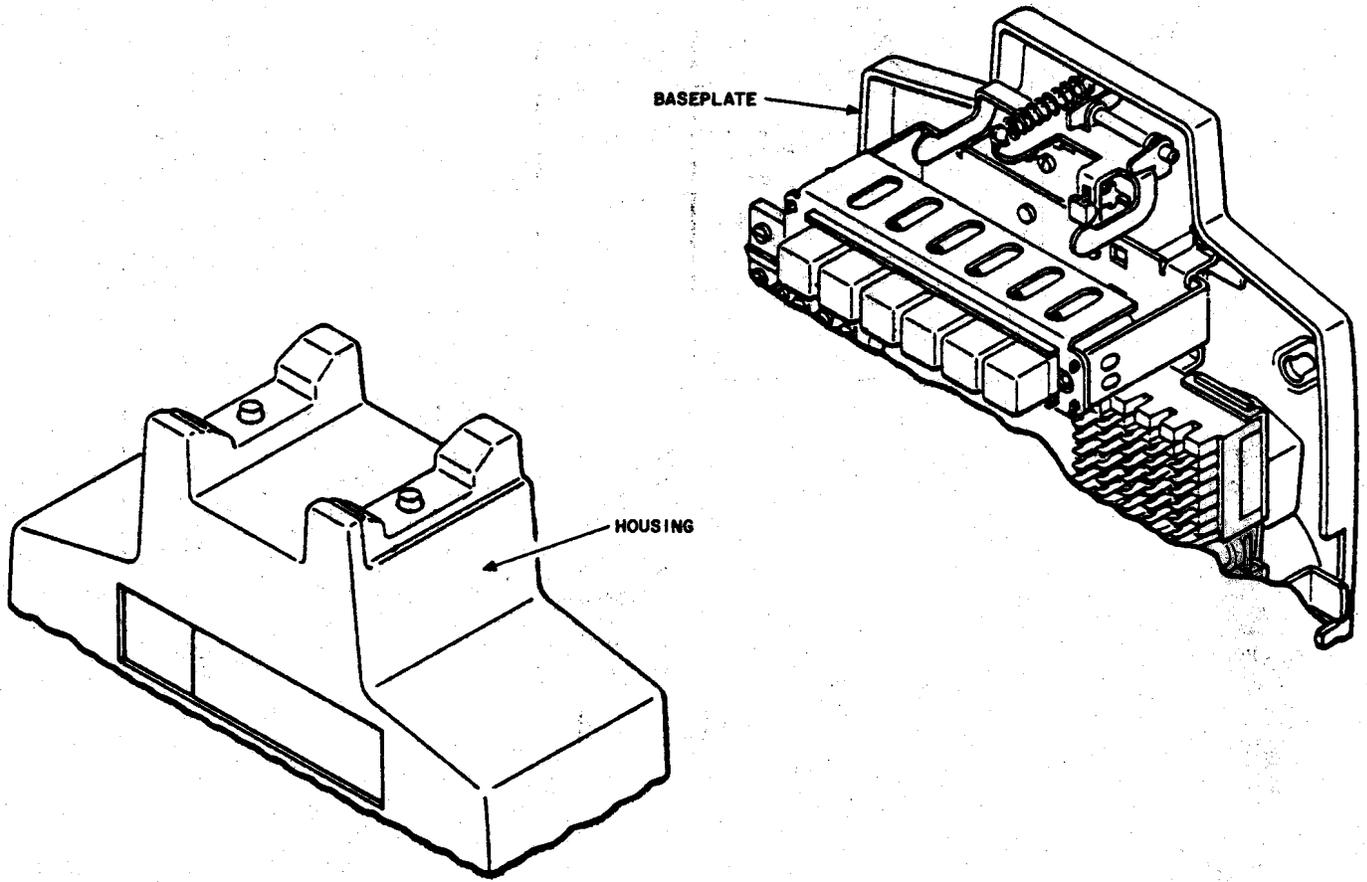
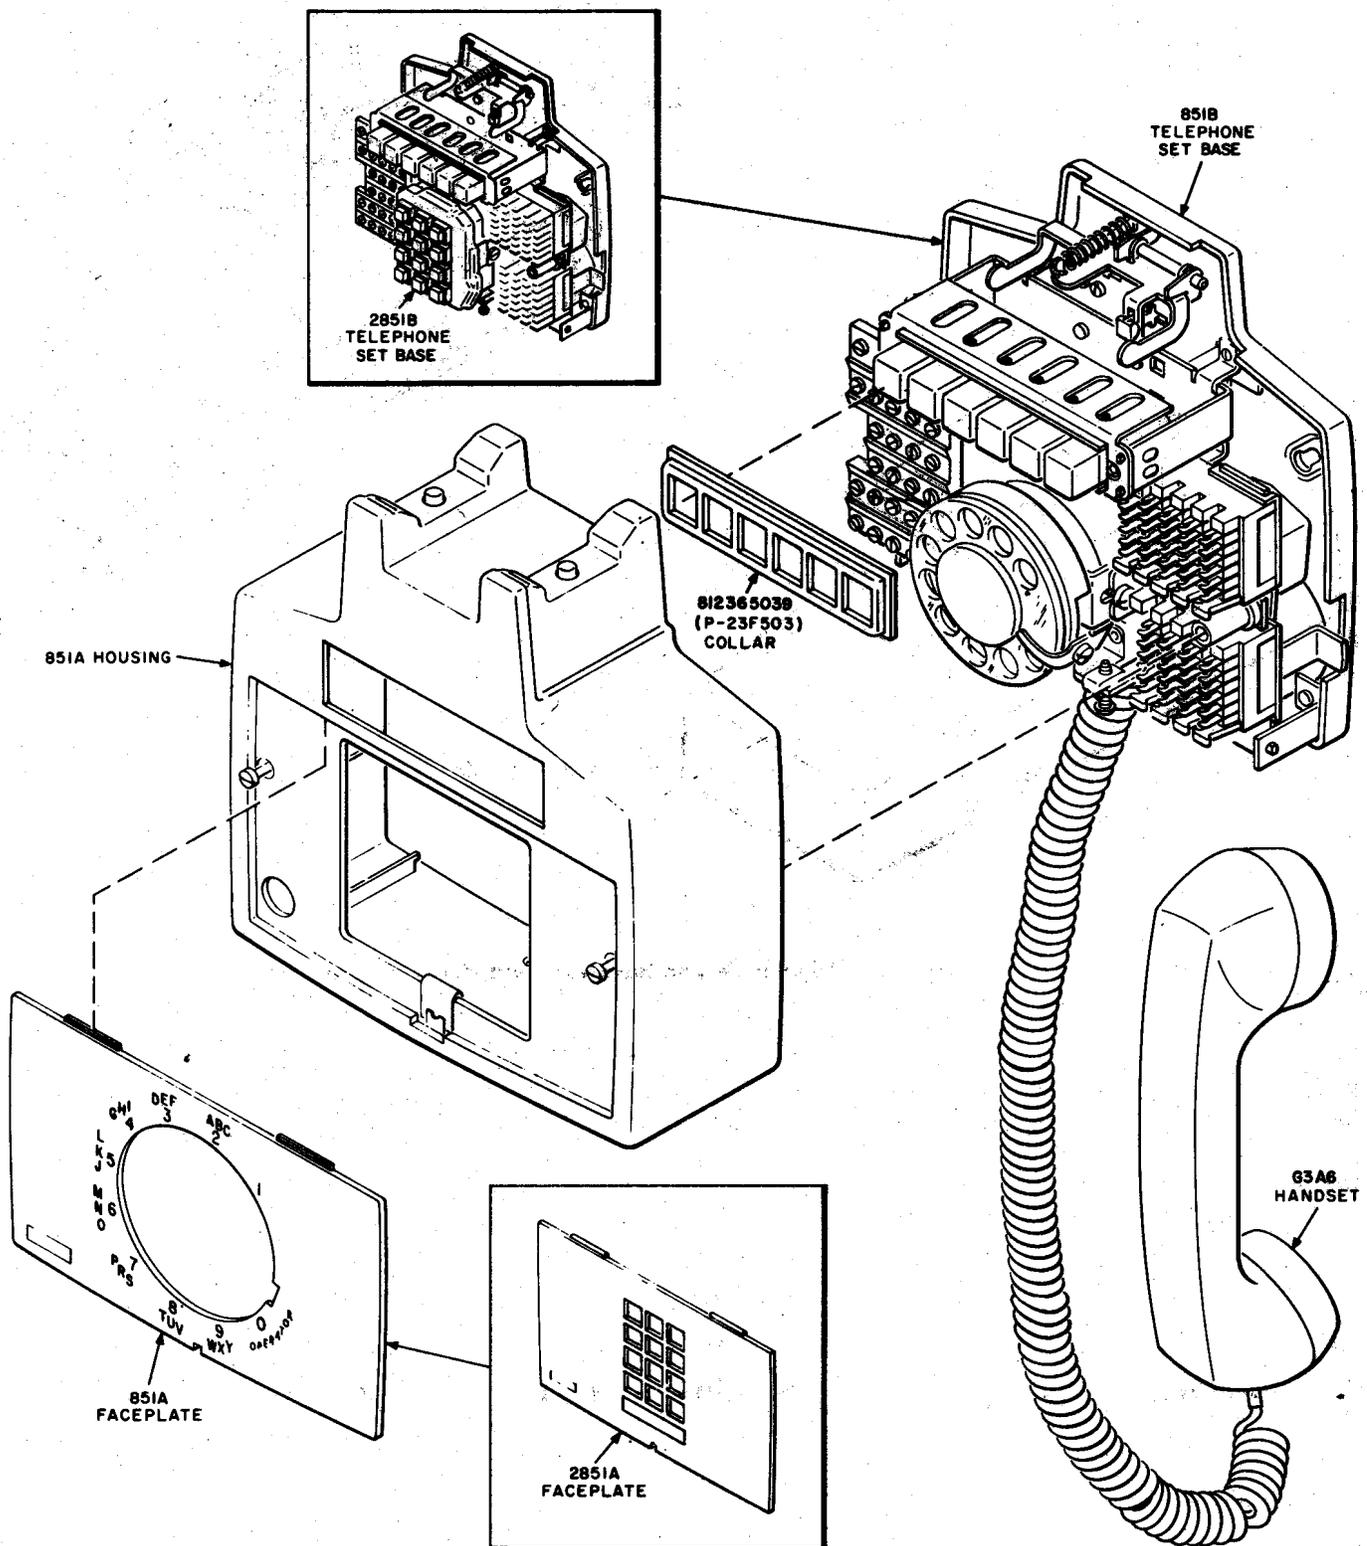

Fig. 22—Original Version Baseplate and Housing
Fig. 23—851B (MD) and 2851B (MD) Telephone Sets, Early Version, Showing Baseplate and 851A Housing
5.05 For field replacement of 851A housing original version of housing (Fig. 22) can be used with sets equipped with either the early, later, or current base (Fig. 23, 24, and 25). The current 851A housing can not be used with the original version base.